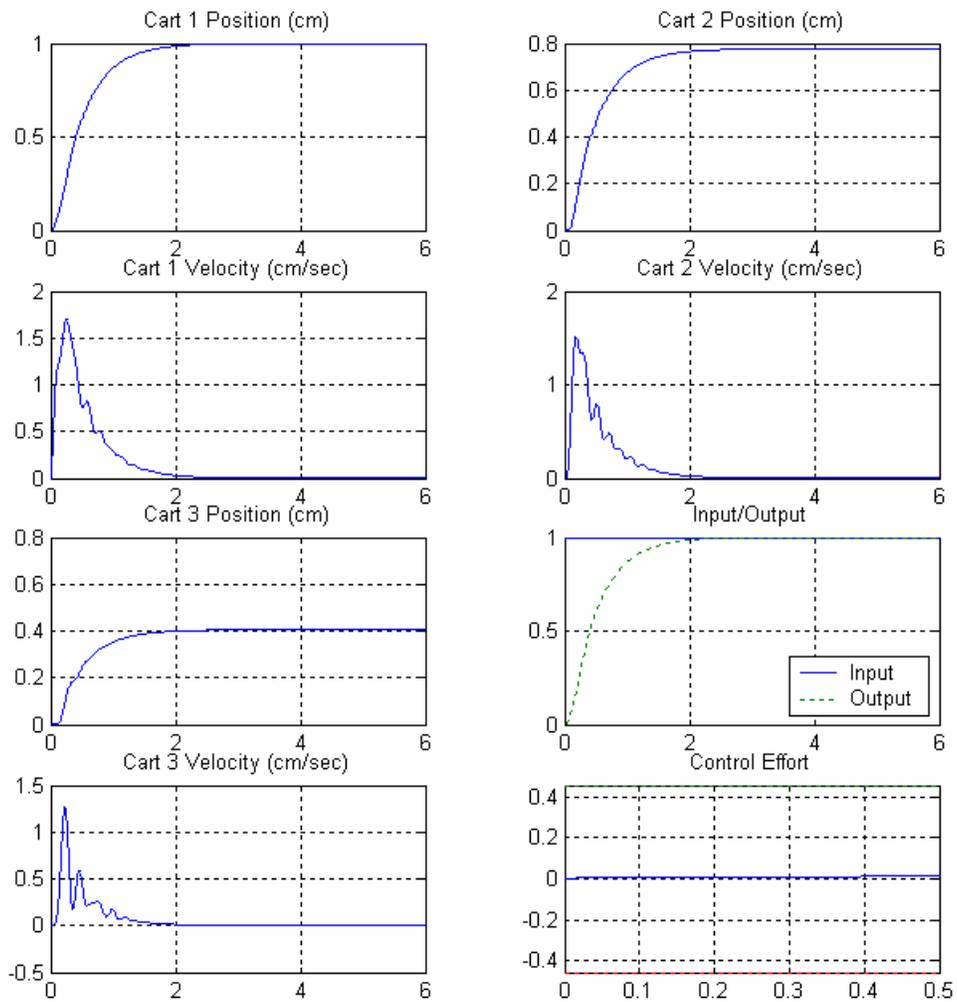

Figure 4. Step response of a three degree of freedom system using the lqr command. The position of the first cart is being controlled.
b) Utilizing an lqr controller, the last Q penalty value is a penalty on the new (augmented) state. Using the command $k = \text{lqr}([0.1 \ 0 \ 0.1 \ 0 \ 0.1 \ 0 \ 1], 10)$ and controlling the position of the first cart you should get the results displayed in Figure 4. Turn in your plot.